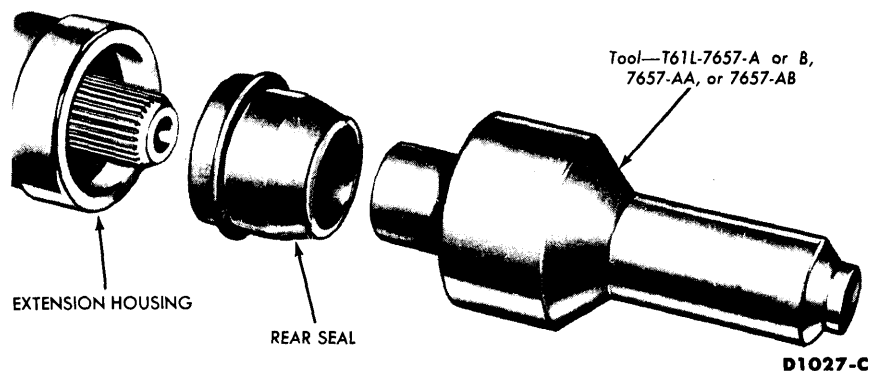

FIG. 20—Extension Housing Rear Seal Installation
5. Before installing a new seal (Fig. 20), inspect the sealing surface of the universal joint yoke for scores. If scores are found, replace the yoke.
7. Drive the seal into the housing with the tool shown in Fig. 20. The seal should be firmly seated in the bore.